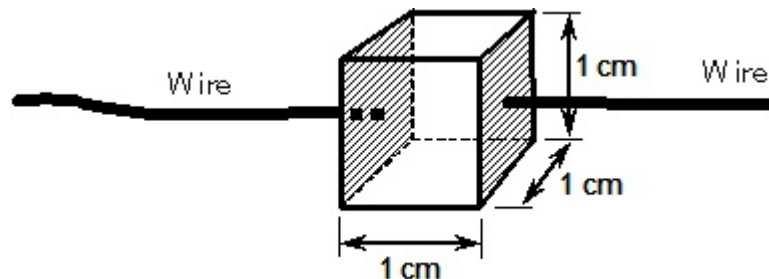

Figure 212.2 Unit resistivity of a material is generally given in ohm•centimeters which is the resistance through a one centimeter cube of the material.
Resistance of Earth, Water, and Biological Materials: There are many materials that will conduct electricity even though the resistivity of the material is quite high. Unit resistivity of materials is typically given in ohm•centimeters. This is the resistance from one side to the other of a cube of the material that is one centimeter on each side as illustrated in Figure 212.2. If the cross-sectional area and length of a material is known along with the resistivity, the resistance of the material can be determined using Equation 212.1, however, rho (ρ) is substituted for K and has units of ohm•centimeters. Length (L) will be in centimeters and cross-sectional area will be in square centimeters.